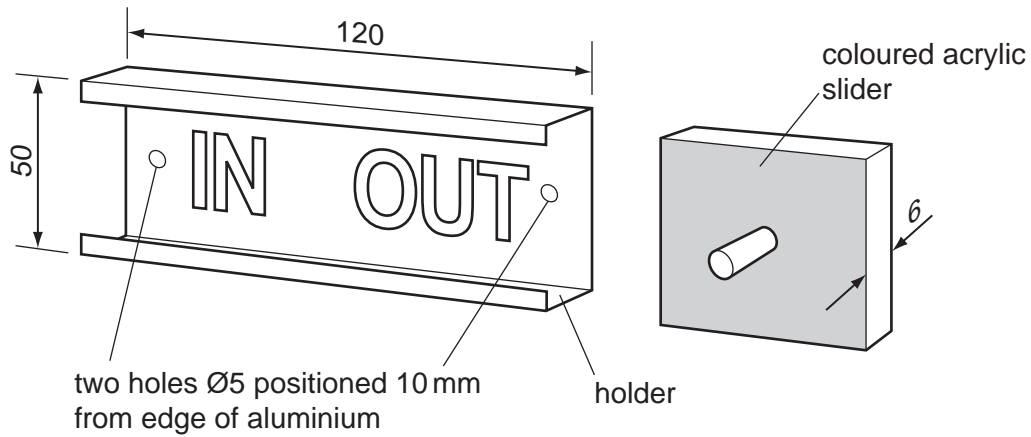

Fig. 8
- 12 Fig. 8 shows a signboard that could be attached to an office door. The coloured acrylic slider moves across to show either 'IN' or 'OUT'.